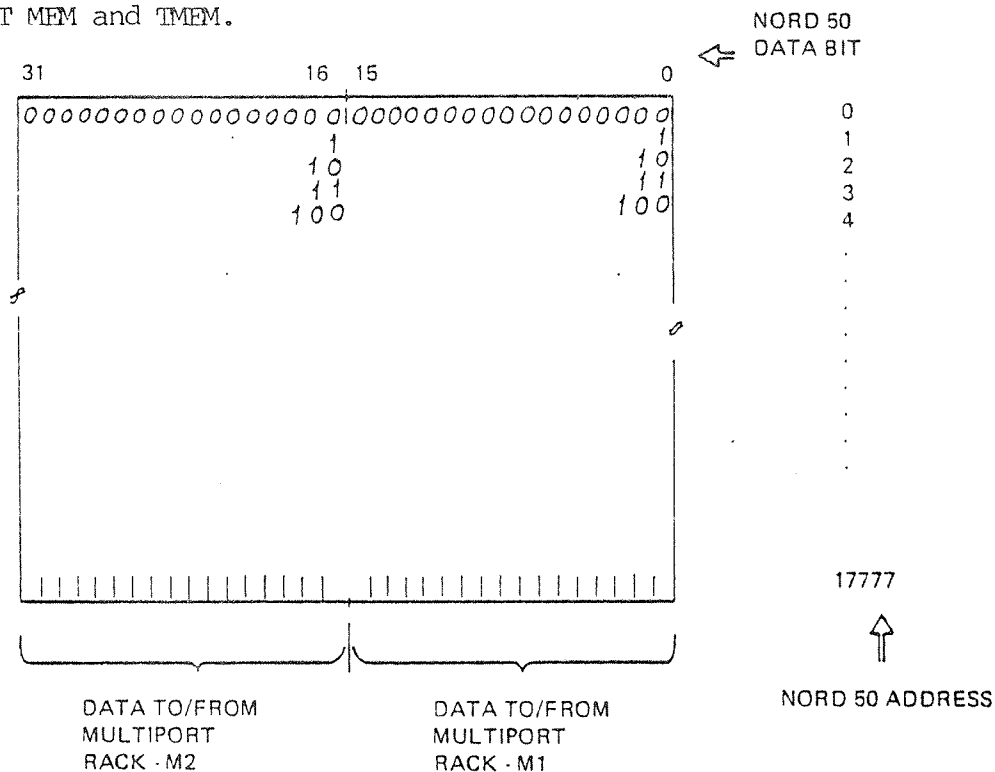

Fig. 28. Address in address test
- See Figure 28 for an example of an Address in Address Test.
Figures 28 and 29 will assist in identifying failing modules.
Figure 28 should be used in conjunction with Section 6.4.